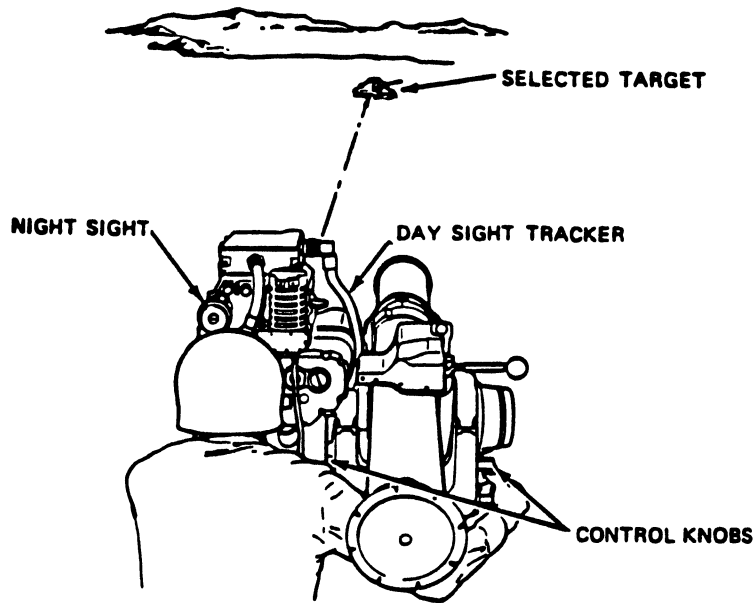

Fig 4-27. Sighting in on target.
Step 2. Look through the day sight tracker or night sight and turn the control knobs to point the day sight tracker/night sight in the general direction of the selected target (fig 4-27).